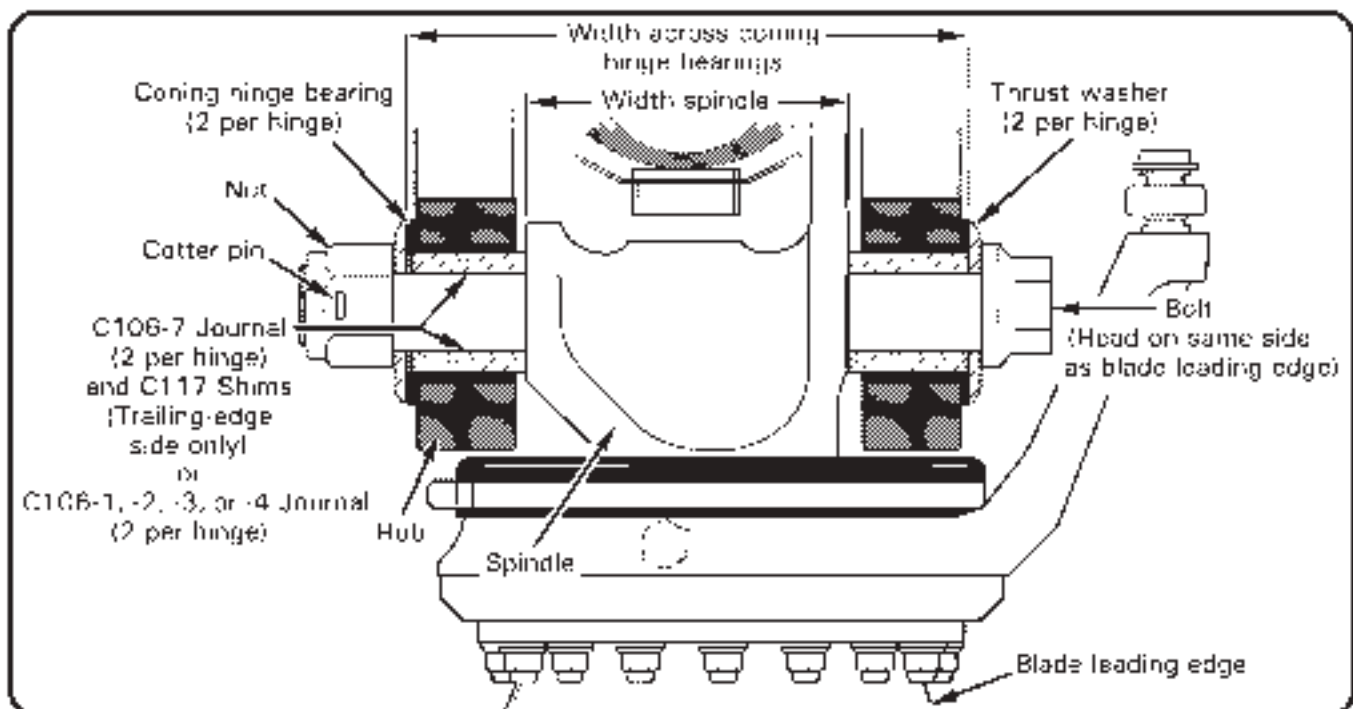
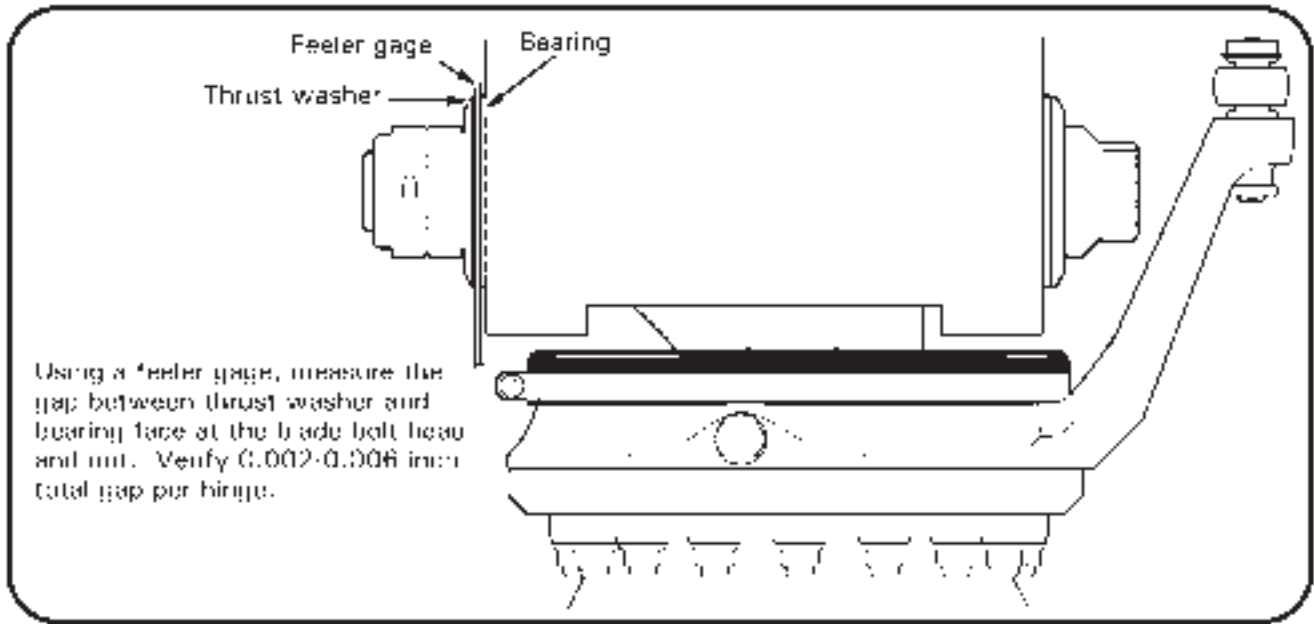

FIGURE 9-6 CONING HINGE (BLADE INSTALLATION; VIEW LOOKING DOWN)
FIGURE 9-7 MEASURING CONING HINGE AXIAL GAP
5. Adjust journal combination or shim stack as required to meet coning hinge axial gap requirement per Figure 9-7 and to maintain teeter friction requirement as follows: It must be possible to manually cone each blade without teetering the hub when blades are held up off the droop stops and lifted at tip.
1. Refer to Figure 9-6 and Table 9-1. Remove cotter pin, nut, thrust washer, and nut-side C117 shims (or journal). Adjust coning hinge friction by changing nut-side shim stack thickness (or journal length) in small increments; reducing shim stack thickness (or using a shorter journal) increases friction, increasing shim stack thickness (or using a longer journal) reduces friction. Coning hinge friction is zero when there is a measurable axial gap per Figure 9-7. Install shims (or journal), thrust washer, and nut.